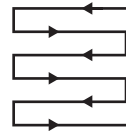

Fig. 20
5. Mow in slight overlapping rows. The most effective pattern for mowing lawns is straight lines along one of the sides. This will keep the rows even and ensures that all the lawn is cut without missing any spots (Fig. 20).
8. Empty the grass catcher (6) regularly.